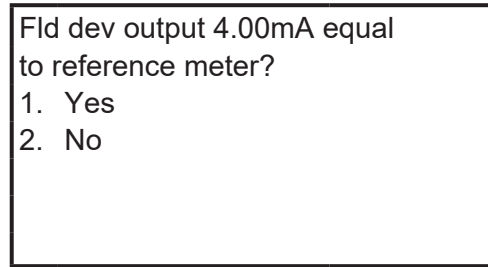

Figure 39 Verification of current output
6. Press F4 (ENTER). The converter will start to accurately output 4mA based on the input value. The display as shown in Figure 39 will then appear. Measure the current manually and verify that it is 4mA. After this is verified, select "1. Yes"